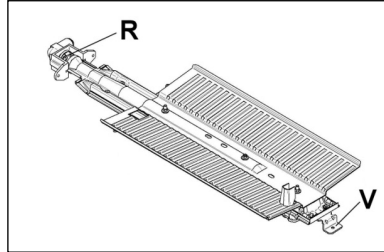

Fig 6
- Loosen the screw **V** and pull out the burner from the support being careful not to damage the ignition plug and the thermocouple (Fig. 6).